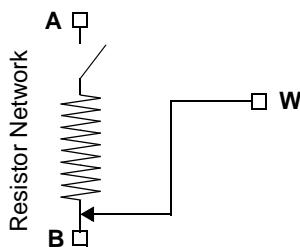

FIGURE 5-2: Resistor Network Shutdown Configuration.
- The PxW terminal is simultaneously connected to the PxW terminal (see Figure 5-2)